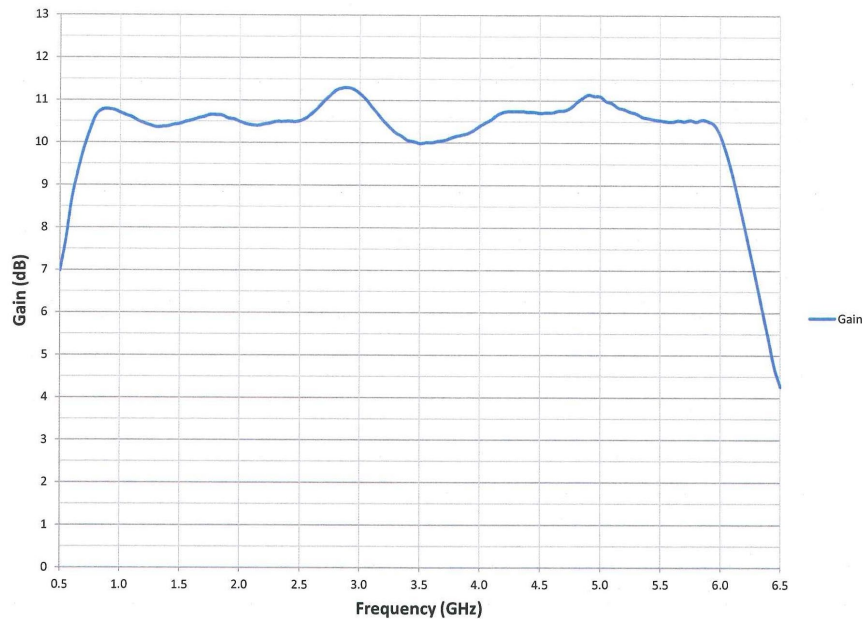

Figure 4-4. Typical Quad Amp Response
- If the gain is slightly low (i.e., several dB below typical), try disconnecting the inputs from the A12 through A27 Quad Amps one at a time, then reconnect them. Note the difference in response when disconnecting the Quad Amps; if any Quad Amp causes less of a change in gain than the others, check the Quad Amp, coaxial cable, and so forth associated with that Quad Amp. Typical Quad Amp Response is shown in Figure 4-4.